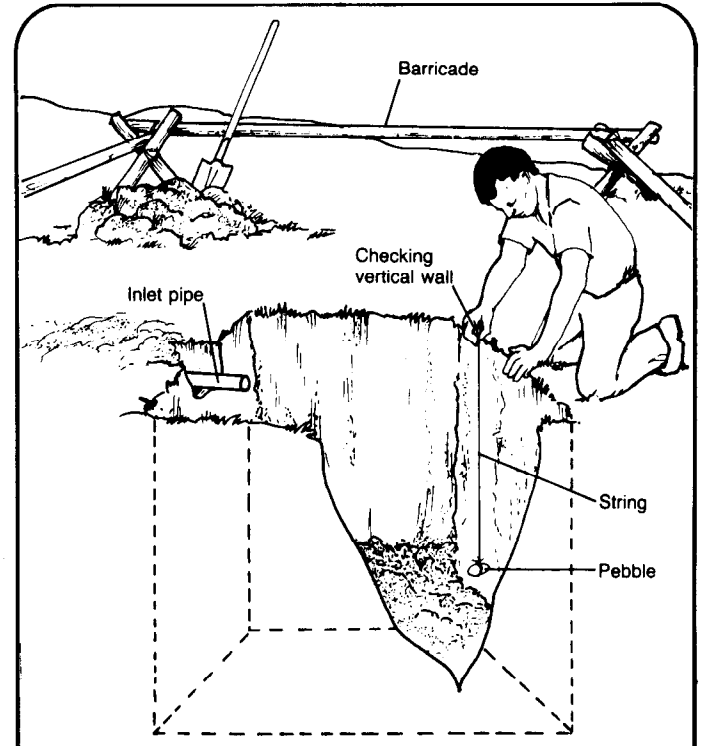
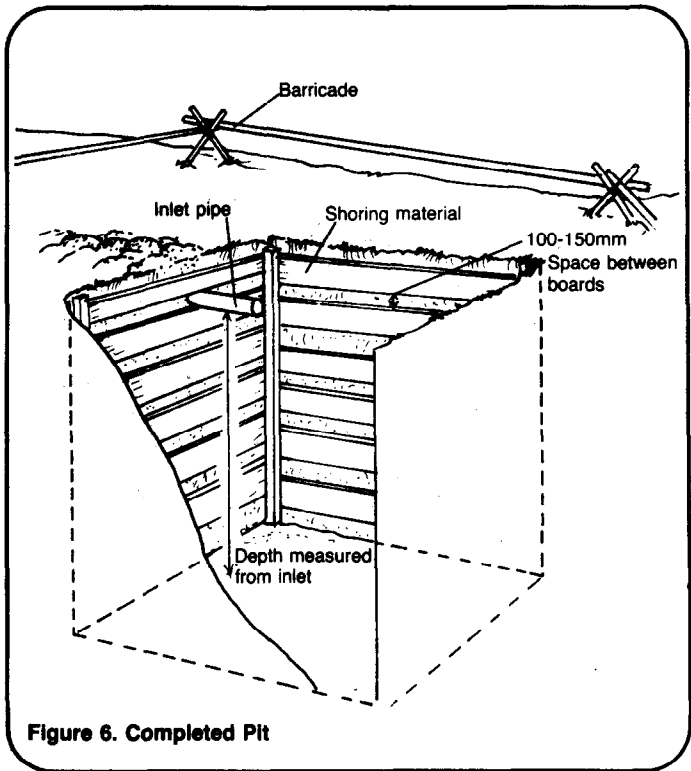

Figure 5. Excavating the Cesspool Pit
Figure 6. Completed Pit
6. Excavate the pit to the width, length, and depth specified by the project designer. The depth is measured downward from the end of the inlet pipe, not from the surface of the ground. The walls should be vertical and fairly smooth but not compacted. As the pit is being excavated, lightly rake the sides and check to make sure they are vertical using a plumb line or a rock and string as shown in Figure 5. Shore up the walls with bamboo, boards, or poles, leaving 100-150mm space between each pole or board. See Figure 6.